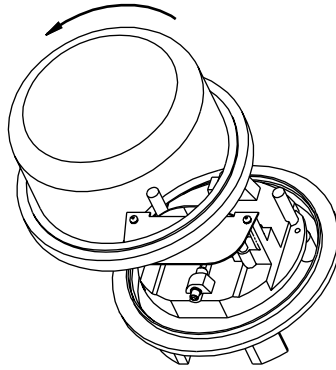

Figure 40. Removing Cover
1. Unscrew the cover on the meter in a counter-clockwise direction. See Figure 40.